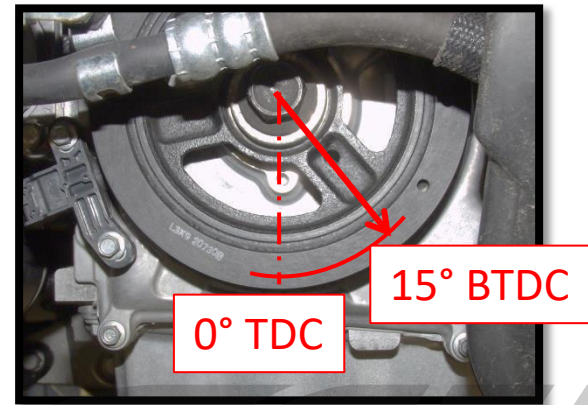

Figure 3c
- c) Turn the crankshaft with the 21mm bolt clock wise, to approximately 15° Before Top Dead Center (Figure 3c).